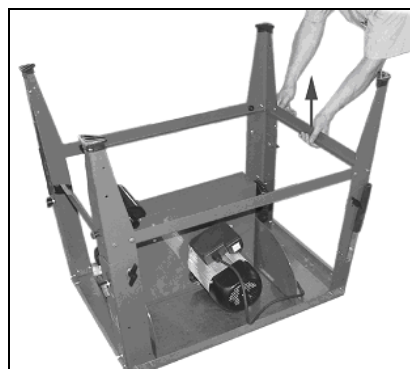

Fig 3
- insert the short crossbeams (Fig 3) and tighten the nuts